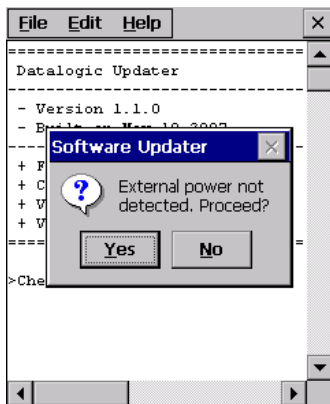

Figure 2
- DLUpdater** detects whether an external power source is present. If not, a warning will come up on the screen asking for a confirmation before carrying on (see figure 2).